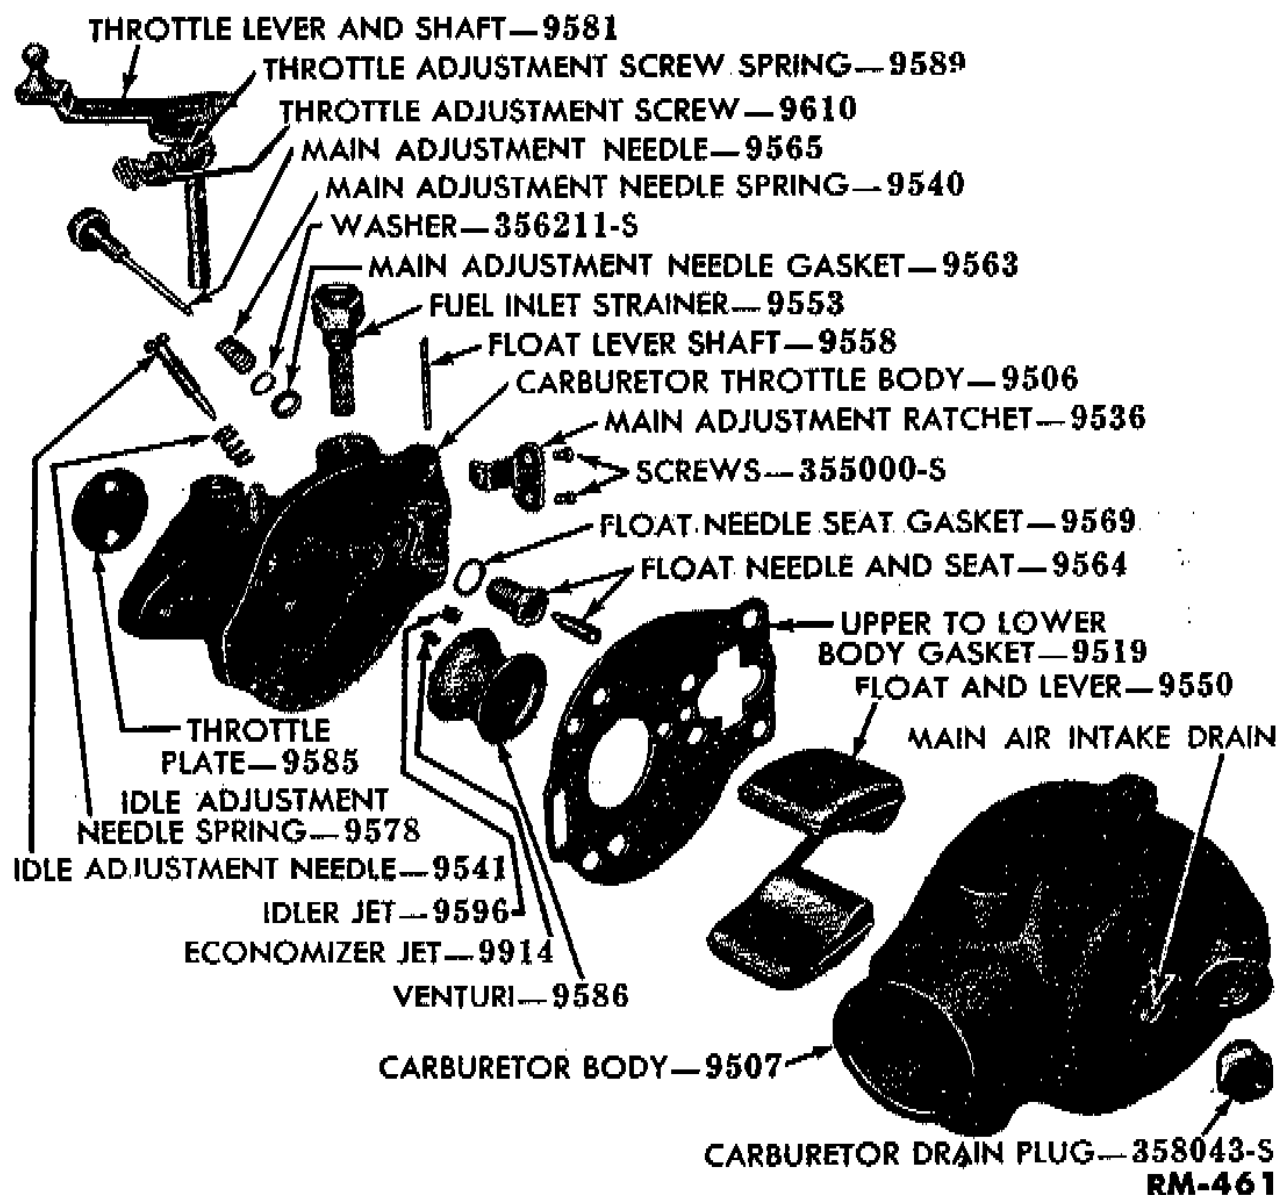
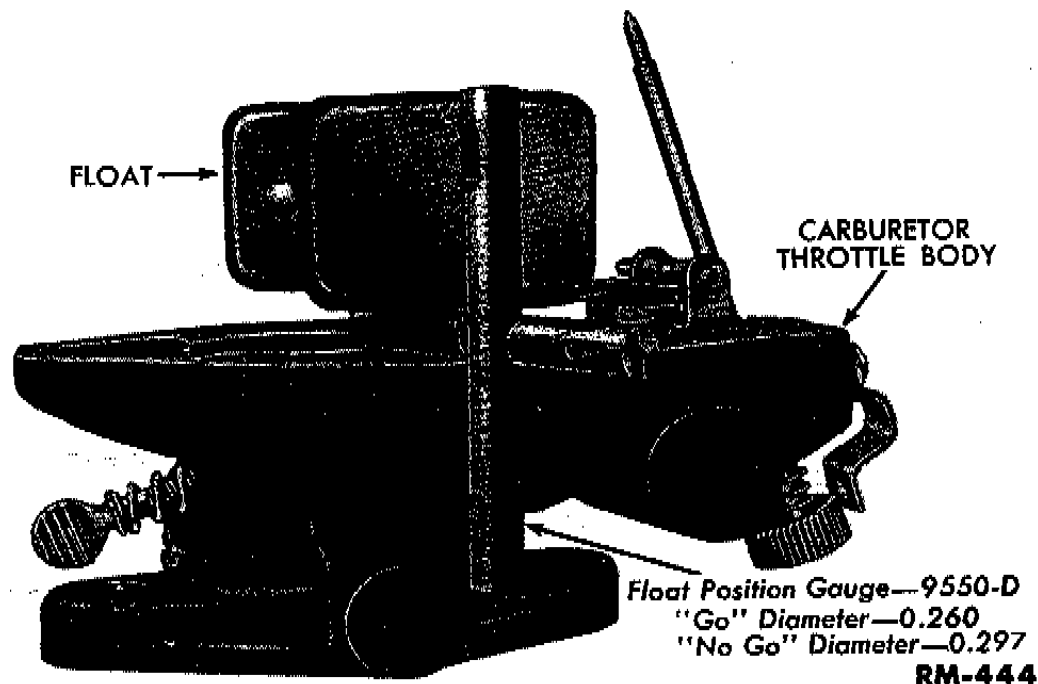

Figure 18—Carburetor, Disassembled
Figure 20—Measuring Float Level (4-Cylinder Engine Carburetor)
a. **Remove Throttle Body From Carburetor Body.** Remove the main adjustment ratchet screws, and remove the ratchet (fig. 18). Remove the main adjustment needle assembly from the throttle body. Remove the four screws which secure the throttle body to the carburetor body. Separate the two units.
b. **Disassemble Throttle Body.** Remove the float lever shaft, float, and float needle valve (fig. 18) from the throttle body. Remove the gasket and venturi. Remove the idler jet and economizer jet with a jet wrench or a small screw driver. Remove the idle adjusting needle. Remove the float needle seat (fig. 18) with a jet wrench.
b. Carburetor Throttle Body. Replace the carburetor throttle body if it is cracked, if the threads are stripped, or if the throttle or choke shaft holes are worn. Replace the throttle body if the float hanger (fig. 18) is damaged.
c. Throttle Shaft and Lever. Replace the throttle shaft and lever (fig. 18) if the shaft is worn or bent, if the threads are stripped, or if the lever is damaged or loose on the shaft.
f. Float. Replace the float (fig. 18) if it is leaking or if it is bent or damaged in any way.
g. Venturi. Replace the venturi (fig. 18) if it aged in any way.
i. Main Adjustment Needle. Replace the main adjustment needle (fig. 18) if the threads are stripped or if the valve is ridged.
j. Main Adjustment Needle Spring. Replace the main adjustment needle spring (fig. 18) if it is weak or broken.
l. Float Needle and Valve Seat. The float needle and valve seat are matched in sets, therefore, when one is at fault, both must be replaced. Replace both the needle and the seat (fig. 18) if there is any indication of wear on either part.
m. Economizer Jet. Replace the economizer jet (fig. 18) if the threads are stripped or if the jet is damaged in any way.
n. Maximum Fuel Limiting Jet. Replace the maximum fuel limiting jet (fig. 18) if the threads are stripped, or if the jet is damaged in any way.
o. Idler Jet. Replace the idler jet (fig. 18) if the threads are stripped or if the jet is damaged in any way.
p. Idle Adjusting Needle. Replace the idle adjusting needle (fig. 18) if the threads are stripped or if the valve surface is ridged.
q. Idle Adjusting Needle Spring. Replace needle spring (fig. 18) if it is broken.
r. **Main Adjustment Ratchet.** Replace the main adjustment ratchet if it is broken (fig. 18).
b. **Assemble Carburetor Throttle Body.** Install the idler jet and economizer jet (fig. 18) in the throttle body with a small screw driver or jet wrench. Install the float needle and a new gasket with a jet wrench. Install a new felt seal on the lever end of the throttle shaft. Install the throttle shaft and lever in the throttle body. Place the throttle plate on the throttle shaft, and install washers. Hold the throttle lever in the c
the two throttle plate screws. Install the idle fuel adjusting screw and spring. Turn the screw in until it seats lightly, then back it out $\frac{3}{4}$ of a turn. Place the venturi (fig. 18) in the gasket. Place the gasket on the throttle body so the large end of the venturi seats in the throttle body. Place the float needle valve in the float needle valve seat. Install the float in the throttle body. Secure the main adjustment ratchet to the throttle body with two screws and washers. Set the float to the correct level (fig. 20).
c. Assemble Carburetor Throttle Body to Carburetor Body. Place the carburetor throttle body on the carburetor body, as shown in fig. 21, being careful not to bend the float. Secure the carburetor throttle body to the carburetor body with four screws and lock washers. Install the main adjustment needle assembly, using a new gasket (fig. 18). Turn the adjustment needle in until it is seated lightly, then turn it out $1\frac{1}{4}$ to $1\frac{1}{2}$ turns.